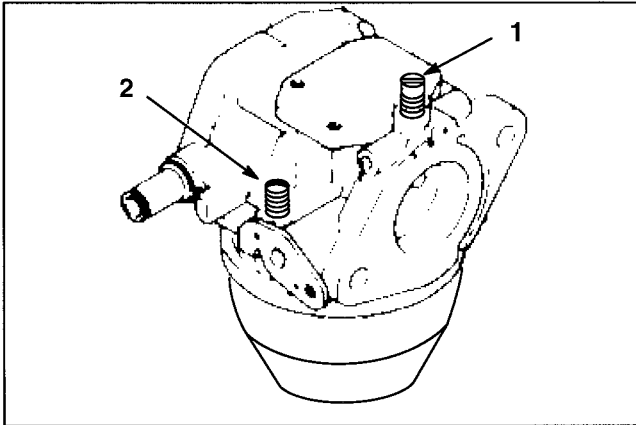

Figure 22
1. **Idle Fuel Adjusting Needle** (Fig. 22) - Close needle by gently rotating it clockwise.
2. Rotate - open - the needle 1 turn counterclockwise (Fig. 22).
4. **Idle Speed Setting** - Move the throttle control to SLOW setting. Set the idle speed to 1200 rpm \pm 75 RPM by turning the idle speed adjusting screw in or out (Fig. 22). Check speed with a tachometer.